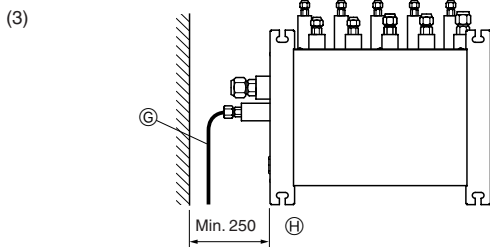

Fig. 4-7
#### (3) Top View (Fig. 4-7)
- ⑦ Refrigerant piping
- ⑧ When facing in the opposite direction to the refrigerant piping.